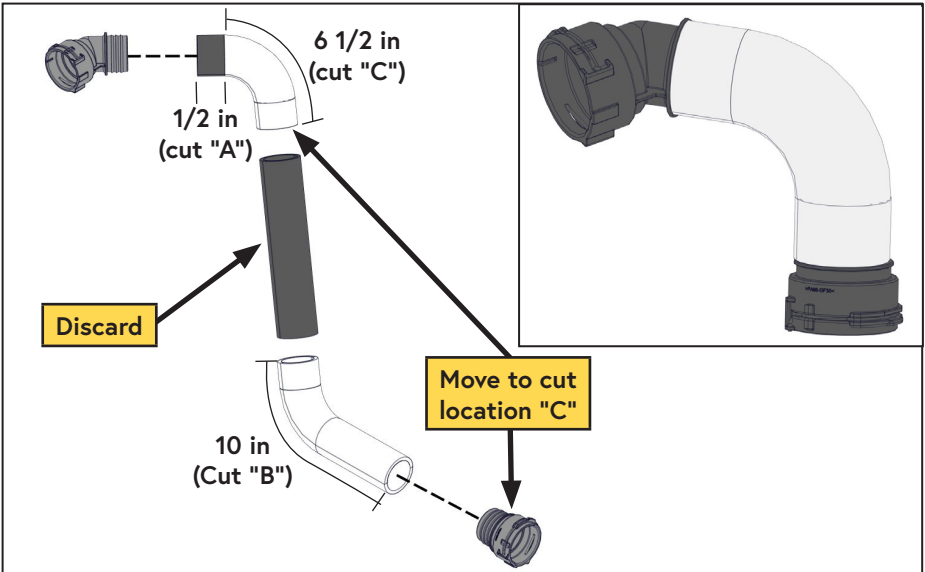

Figure 28 — Lower radiator hose modification
- With the radiator side quick connect removed, measure and cut 1/2 in off of the radiator hose and reinsert the quick connect using the supplied hose clamp (cut "A") (Figure 28).
- With the diverter side quick connect removed, measure 10 in along the outside radius and cut the hose (cut "B") (Figure 28).
- Measure 6 1/2 in from cut "A" along the outside radius towards the center of the hose. Cut the hose, retaining the curved section (cut "C") (Figure 28).
- Move the quick connect, removed from the diverter end, to cut location "C"; secure using the supplied hose clamp (Figure 28).